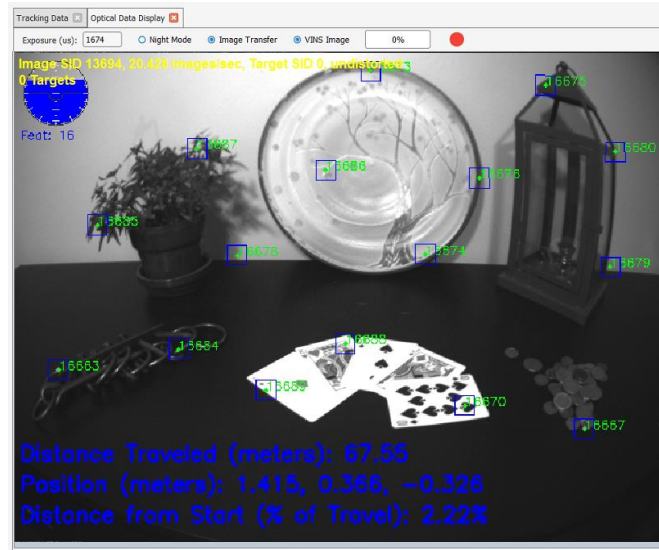

Figure 20 – VINS Image
- c. Next click the **VINS Image** (not supported with embedded settings) button to show the features recognized by the VINS algorithm. **Figure 20** shows the VINS Image while viewing an assortment of items.
2. While the NFT is in State 1, position and orientation will be relative to the starting position and orientation. To view the position and orientation of the tracker relative to the starting position, use the **3D Data Display** shown in **Figure 20**.